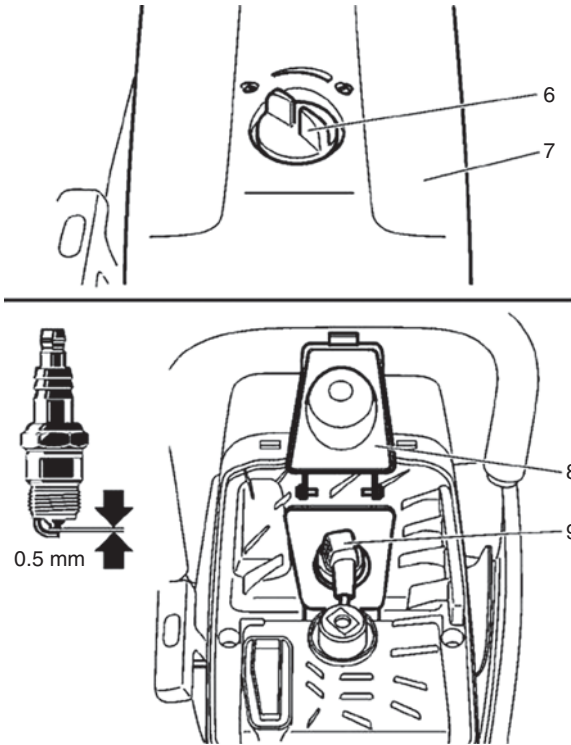

FIG. 2-1. *Narrow spark-plug gaps are the norm for small engines. In the case of this Wacker Neuson chainsaw, the 0.5-mm gap translates as 0.013 in.*
- *Spark plug* Begin by replacing the spark plug with a new, or known-good, plug of the type recommended in the operator's manual. This action will correct 90% of engine malfunctions. Gap to specification, which for most handheld engines is 0.016 in. and for larger units 0.025 in. (Fig. 2-1). A cam-type gauge gives less ambiguous readings than a conventional, flat-blade feeler gauge (Fig. 2-2).